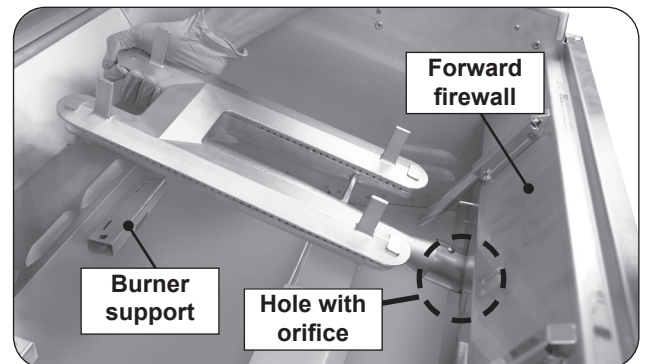

Fig. 48-3 Remove main burner
3. Carefully lift the burner from the burner support and out from the hole in the forward fire wall. See Fig. 48-3.